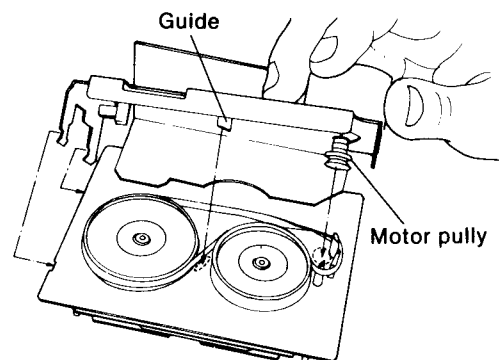

Fig. 7
- When mounting the flywheel bracket, position the mechanism chassis and the flywheel bracket so that the motor pulley and guide fit on the chassis as shown in Fig. 7.